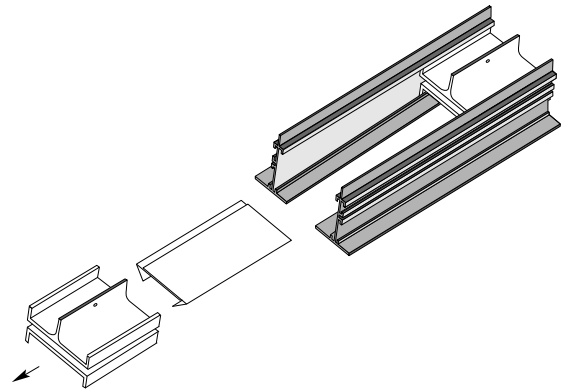

Figure 20. Removal of Pattern Controller
- C. Remove the pattern controllers as shown in Figure 20.